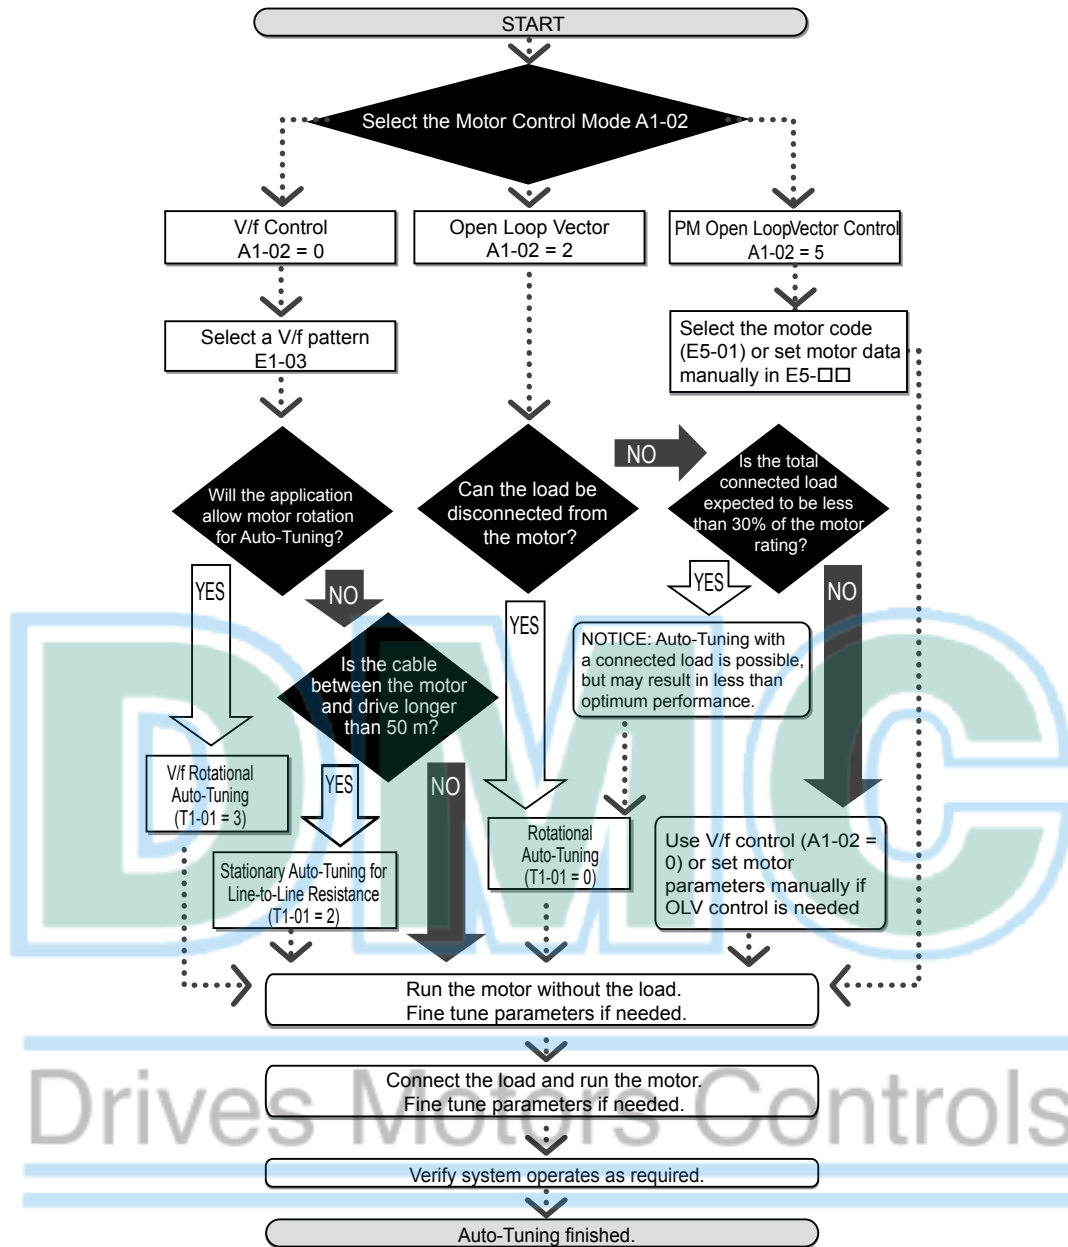

Figure 4.13 Auto-Tuning Selection
2. Determine which type of Auto-Tuning best fits the application requirements following *Figure 4.13*.